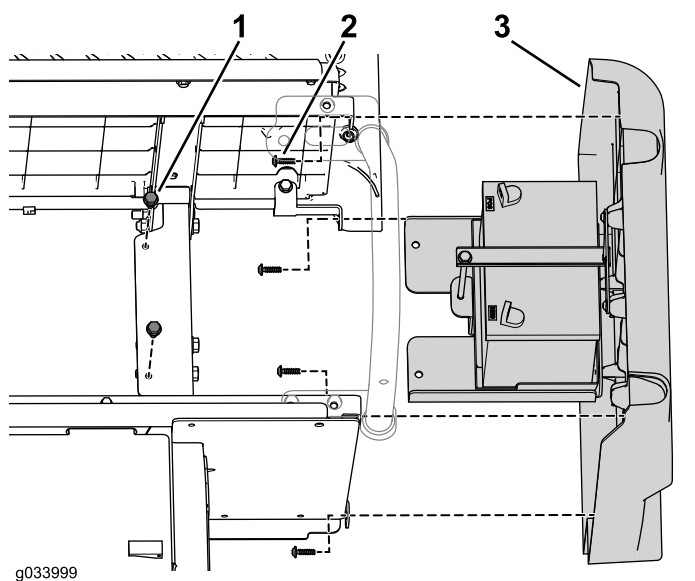

Figure 8
8. Remove the 2 flange-head bolts securing the battery tray to the frame (Figure 8).
1. Secure the right side panel using the previously removed 4 screws (Figure 8).
2. Secure the battery tray to the frame using the previously removed 2 flange-head bolts (Figure 8).